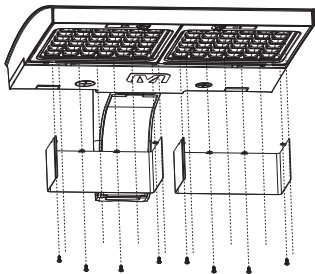

FIG. 3
3. For back visor applications, repeat steps 1 and 2 on the back side of the optic lens. (See Figs. 3 & 4)